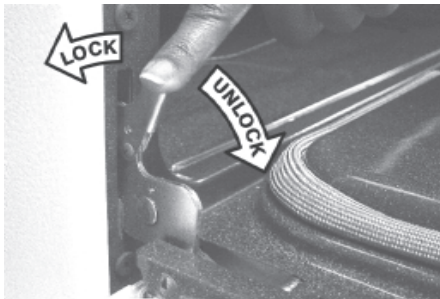

Fig. 2
2. Pull the door hinge locks on both left and right door hinges completely towards the oven door (See Fig. 2). A tool such as a small flat-blade screwdriver may be required.
4. Push the door hinge locks up towards and into the oven frame on both left and right oven door hinges (See Fig. 2) to the locked position.